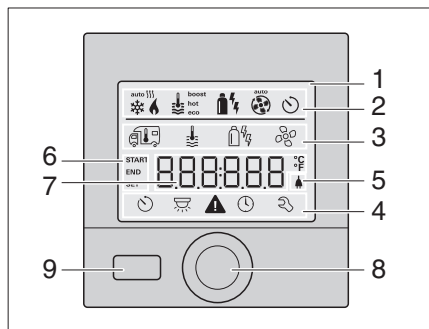

Fig. 89 Panel Truma CP plus
► Tap the rotary/push button (Fig. 89,8).
► Press the rotary/push button (Fig. 89,8) for longer than 4 seconds.
- Use the rotary/push button (Fig. 89,8) to select the room temperature symbol and tap to change to the setting level.
- Confirm the selection by pushing the rotary/push button (Fig. 89,8).
- Use the rotary/push button (Fig. 89,8) to select the desired room temperature.
- Tap the rotary/push button (Fig. 89,8) to confirm the value.
- Use the rotary/push button (Fig. 89,8) to select the hot water level symbol and tap to change to the setting level.
- Use the rotary/push button (Fig. 89,8) to select the desired level.
- Use the rotary/push button (Fig. 89,8) to select the energy symbol and tap to change to the setting level.
- Use the rotary/push button (Fig. 89,8) to select the desired type of energy.